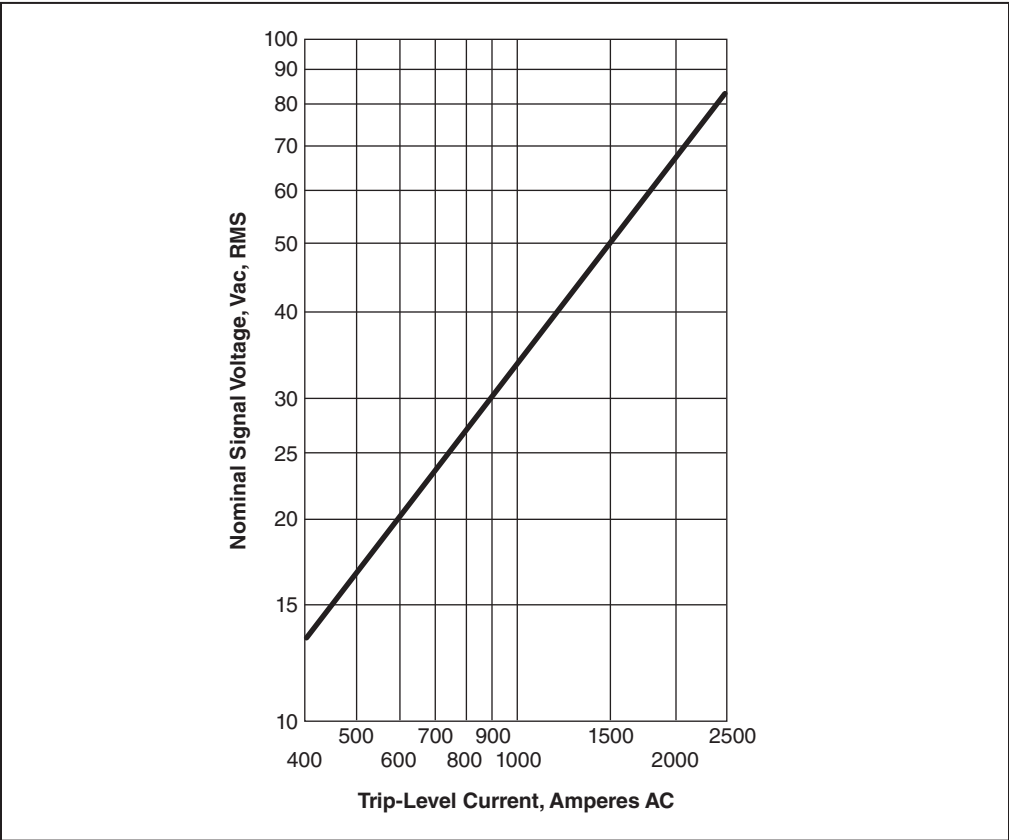

Figure 6. Signal voltage corresponding to phase-current trip-level setting.
- STEP 3.** Determine, from the graph in Figure 6 on page 19, the signal voltage corresponding to the phase-current trip-level setting selected in the “Trip Level” section on page 14.